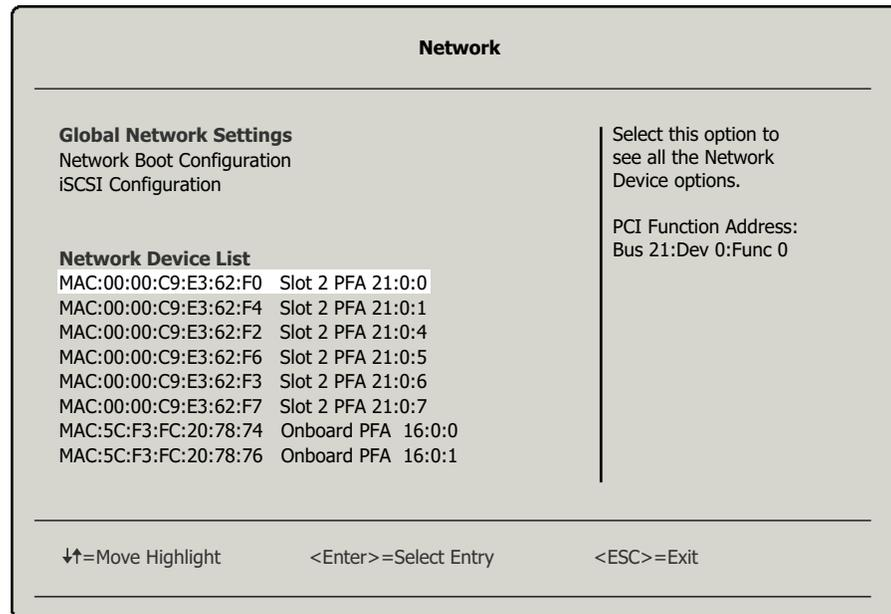

Figure 5-3 Network configuration panel in the blade UEFI utility
5. In the Network configuration panel (Figure 5-3), which shows the Emulex 10GbE Virtual Fabric Adapter II ports as the two physical ports on the adapter, select the first port.